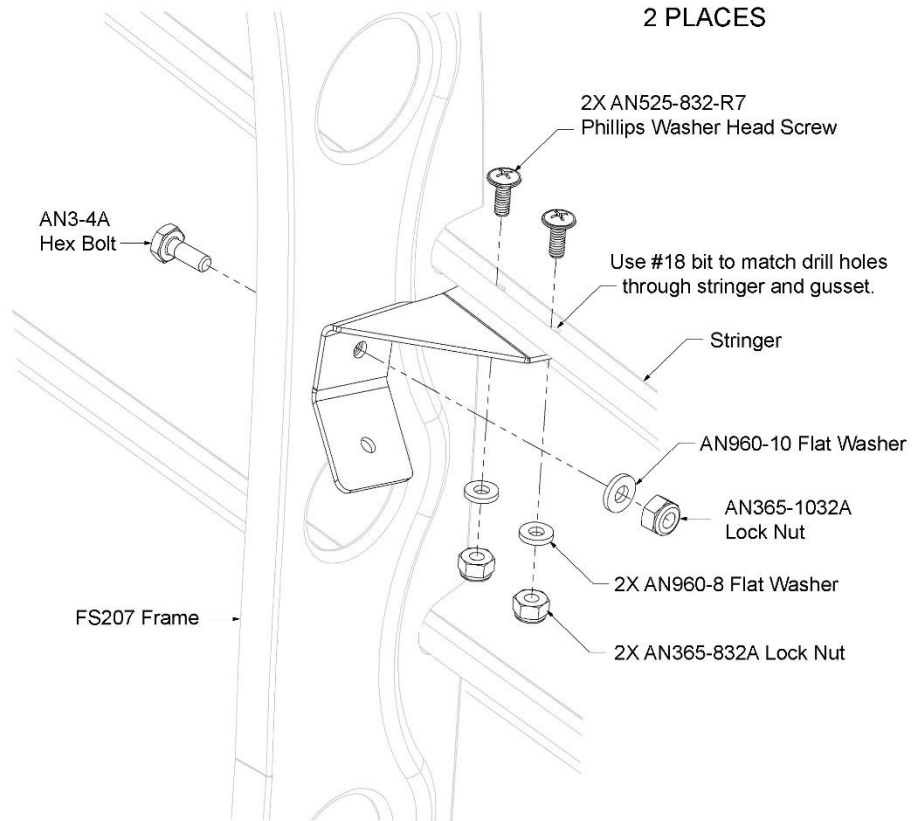

Figure 13: Attaching Gussets to Frame and Stringers (Right Side Shown)
23. Attach gussets to FS207 frame (see Figure 13), and then remove temporary fasteners and attach gussets to stringers. Do not fully tighten hardware yet.